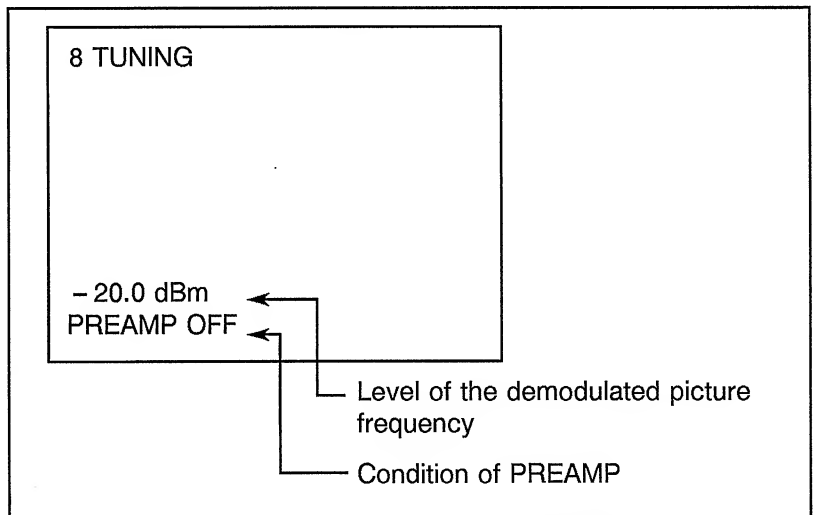

Figure 8-3 Tuning level display
- ... Displays the tuning level. The level of the demodulated picture frequency and the condition of the preamplifier (ON/OFF) are displayed on the OSD. (See Figure 8-3.)